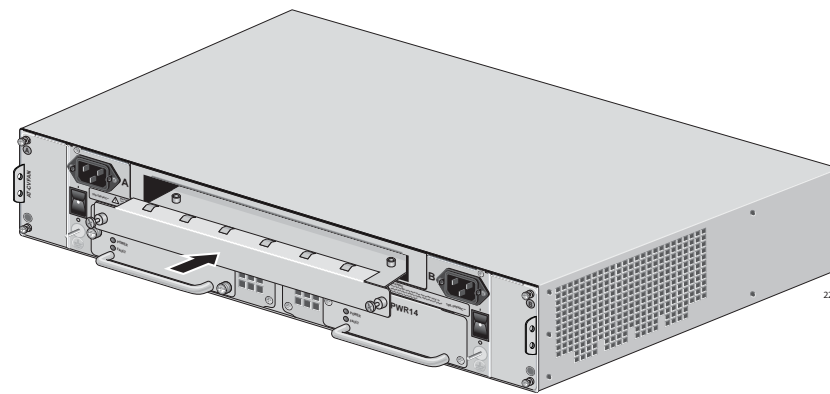

Figure 8. Inserting an AT-CV5PNL3 Blank Slot Cover
- Slide the blank slot cover into the slot, as shown in Figure 8, until the slot cover is flush with the front of the chassis.